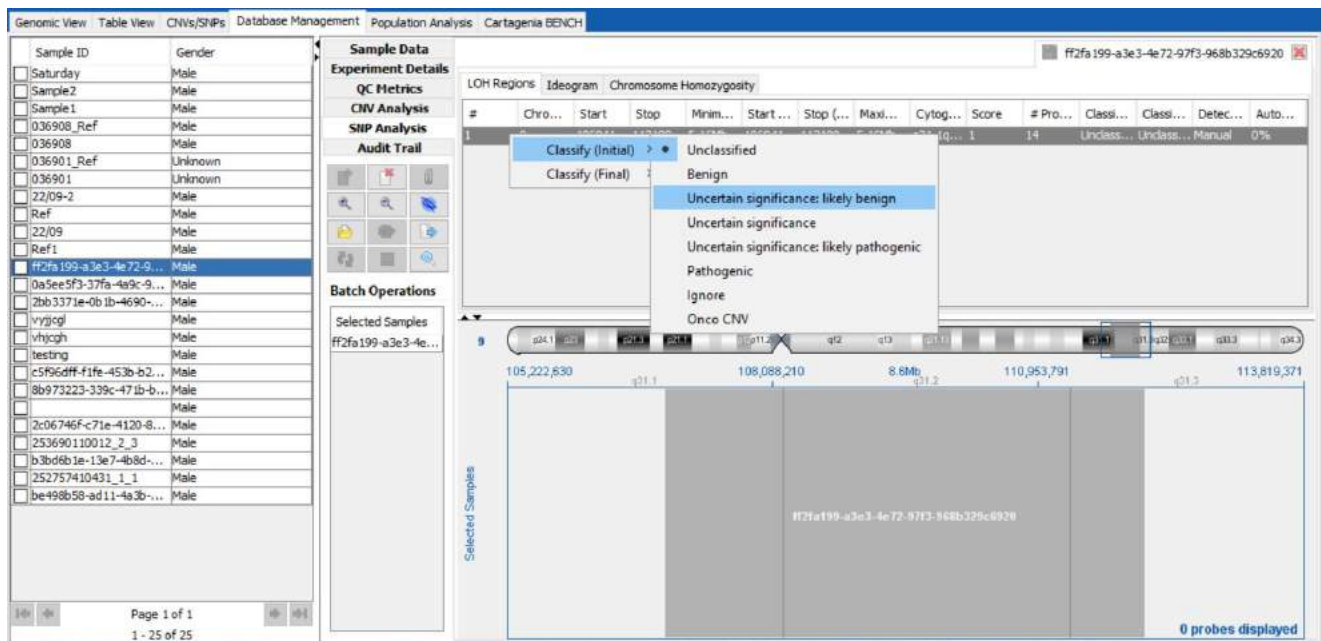

Figure 45: Classification of an aberration from the LOH Regions table of the SNP Analysis section of the Database Management tab.
- a. If an aberration has been submitted to the database, right-click on the corresponding row(s) of the regions table (labelled **Table** or **LOH regions**) in the **CNV** or **SNP Analysis** section. This will allow selection of the options **Classify (Initial/Final)** and the subsequent classification of choice. An example of this can be seen in Figure 45.